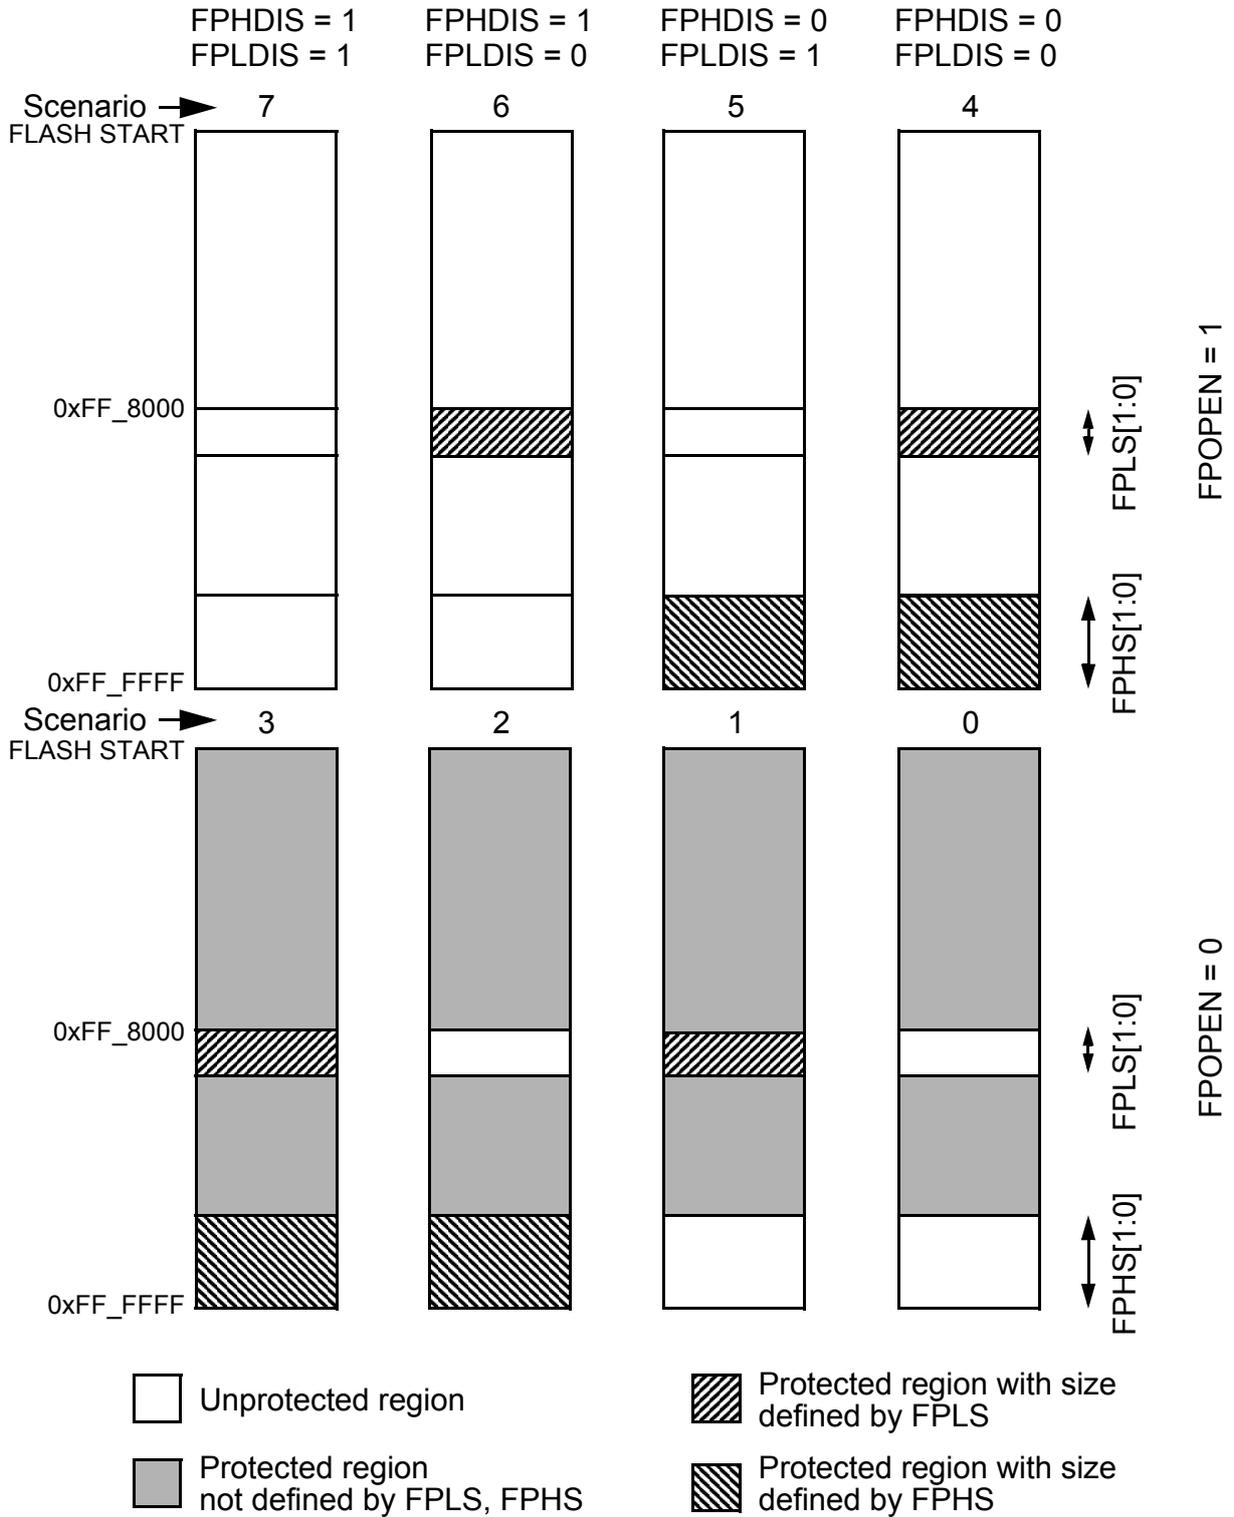

Figure 21-14. P-Flash Protection Scenarios
All possible P-Flash protection scenarios are shown in Figure 21-14. Although the protection scheme is loaded from the Flash memory at global address 0xFF\_FE0C during the reset sequence, it can be changed by the user. The P-Flash protection scheme can be used by applications requiring reprogramming in single chip mode while providing as much protection as possible if reprogramming is not required.
1. Allowed transitions marked with X, see Figure 21-14 for a definition of the scenarios.